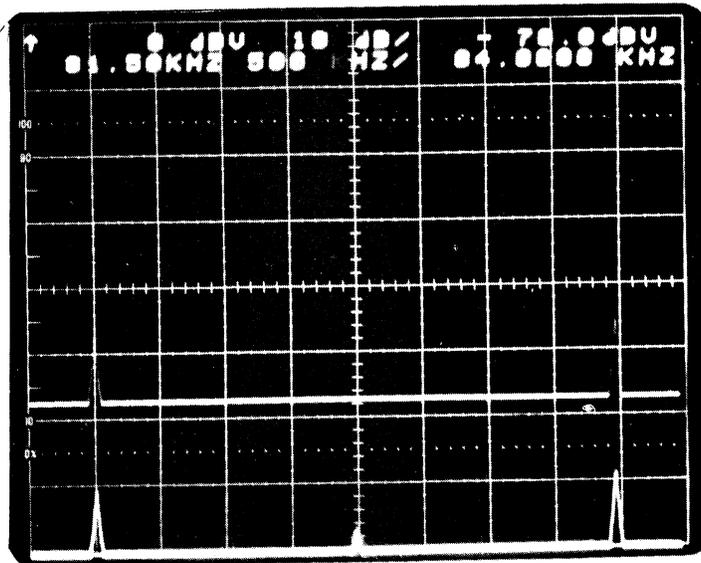

Fig. 4-13a Display of Foreground and Stored Trace
- d. Move BACKGROUND SELECT toggle switch from BLANK to STORE. Press the STORE button in PROCESSING cluster; the foreground (active) trace will be stored and displayed (Fig. 4-13a). Because the background was previously displayed upwards, the two identical traces are now separated in the vertical direction.